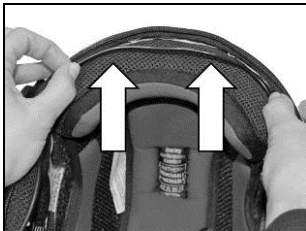

Fig. 29
- Arrange the cable behind the polystyrene shell or inside the relevant housing (Fig. 29).